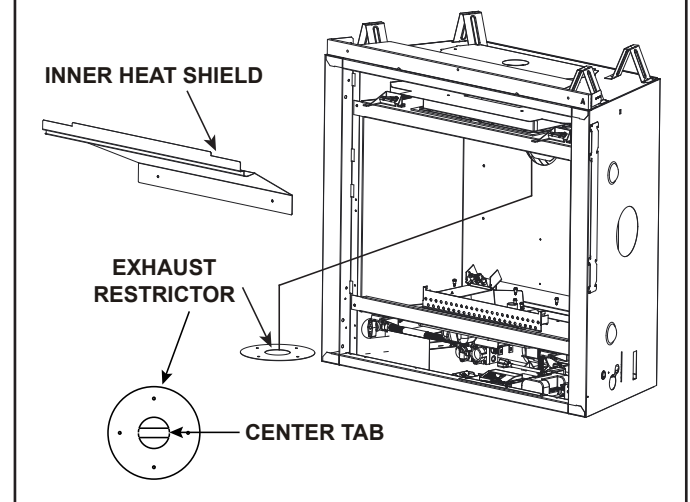

Figure 4.13 Exhaust Restrictor Installation
Note: Remove center tab in exhaust restrictor for vent configuration with over 20 ft. (6.0 m) of vertical. See Figure 4.13.
1. Install the exhaust restrictor over the center of the exhaust outlet in the firebox. See Figure 4.13.